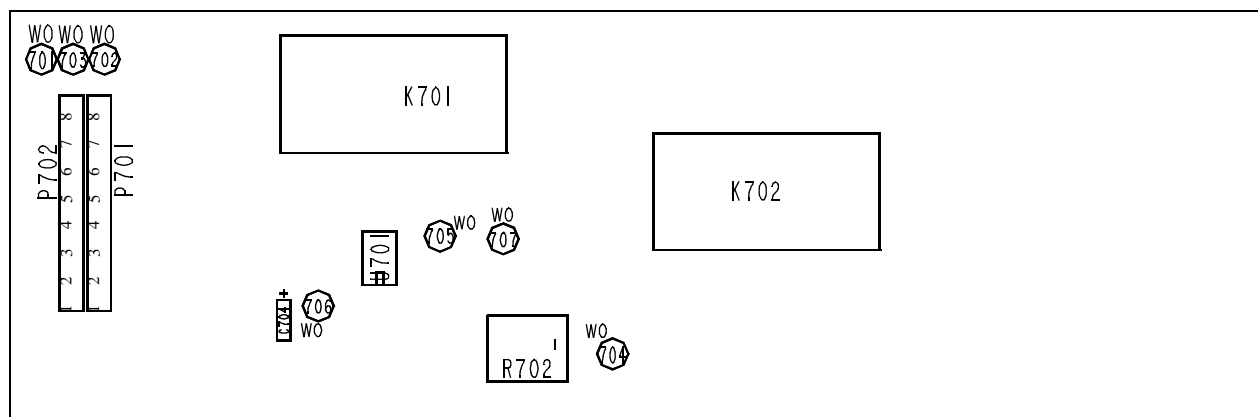

Figure 3-33 AUDIO REVERT BOARD ALIGNMENT POINTS
3. Measure and record the level at C704 on the Audio Revert Board _____ (see Figure 3-33).